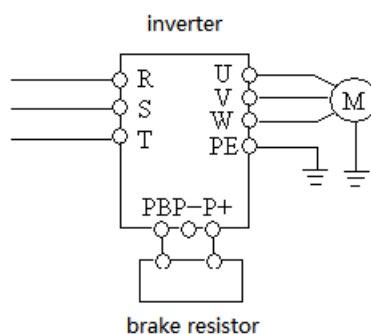

Figure 1-1 Wiring of inverter and brake units
1.5~18.5KW (not including VB5-21P5, VB5-22P2) inverters have built-in brake unit. Please select brake unit as table 1-1. 22KW and above inverters need to connect brake unit. Please refer to Fig. 1-1 for wiring.